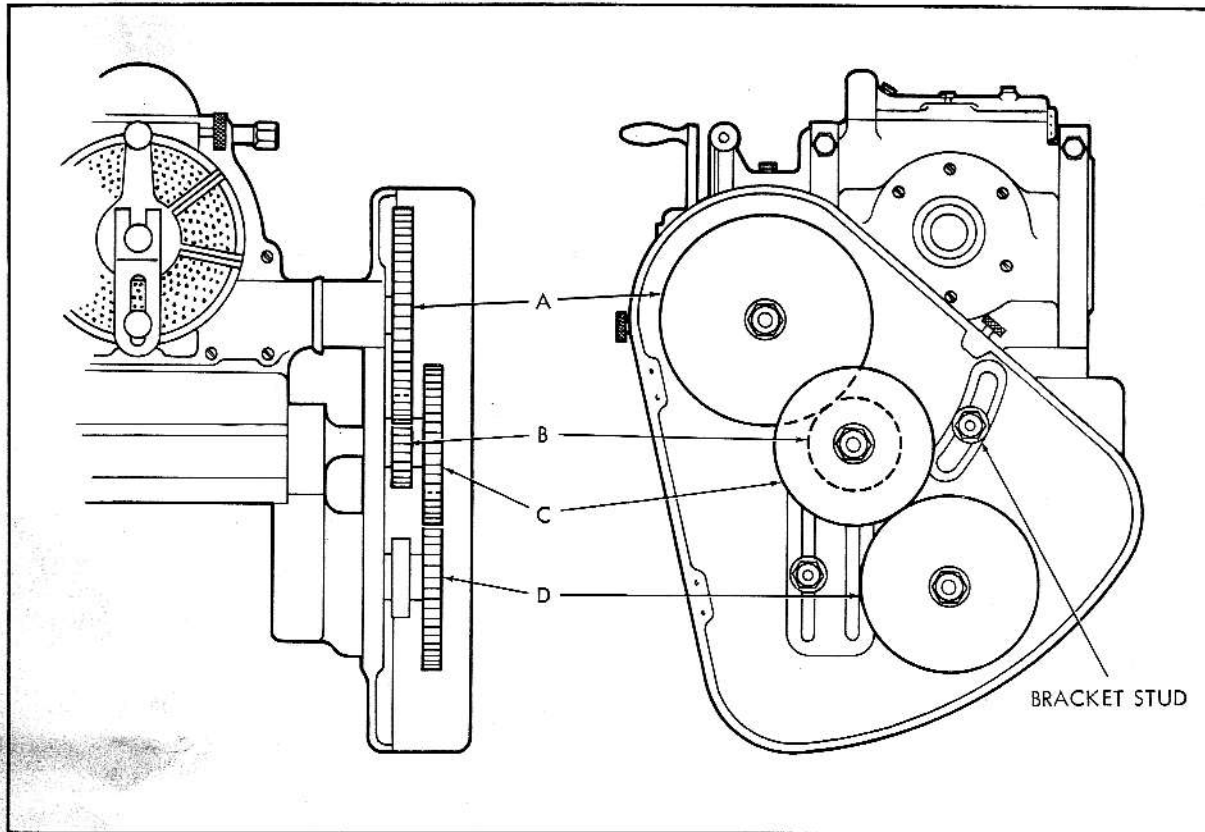

Fig. 6. Gearing in Conventional Lead Attachment.
3. Screw the bracket stud (see Figure 6) supplied with the lead attachment into the hole in the table bracket.
Figure 6 illustrates the position of the gears in the lead attachment and identifies each by a letter. B and D are driver gears and A and C are driven gears. The particular gears to use in each of the positions for a desired lead are listed in Table 2 at the rear of this book. If the gears do not mesh when placed in the positions shown, the two driver gears (B and D) or the two driven gears (A and C) may be inter-changed to give a total of four combinations for the desired lead.